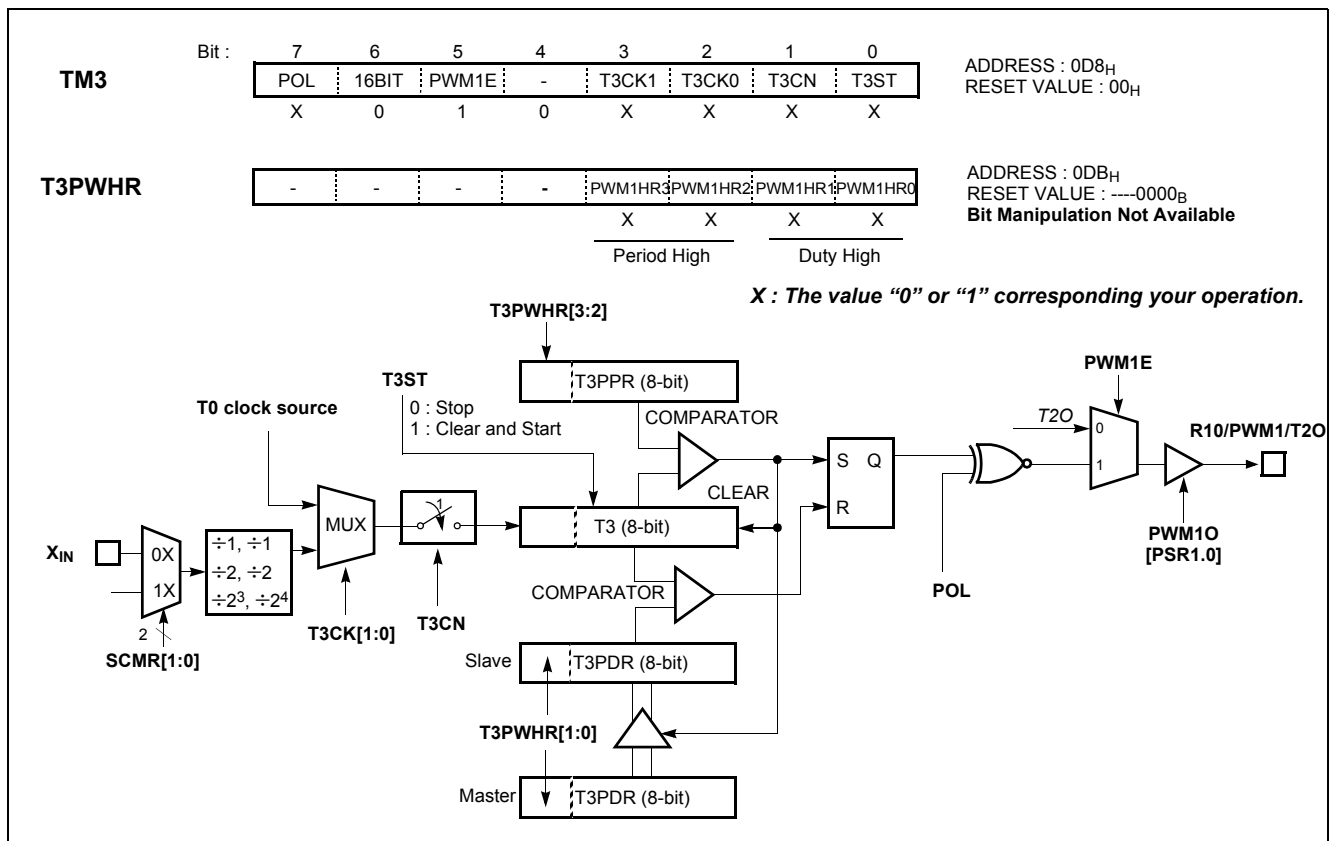

Figure 12-17 PWM1 Mode
glitchless PWM output. In Figure 12-17, the duty data is transferred from the master to the slave when the period data matched to the counted value. (i.e. at the beginning of next duty cycle). The bit POL0(1) of TM1(3) decides the polarity of duty cycle.